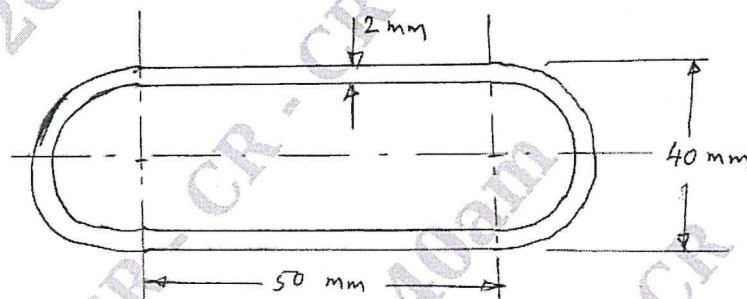

Fig. Q8 (b)
- b. A thin walled 800 mm long member has the cross section as shown in Fig. Q8 (b). Determine